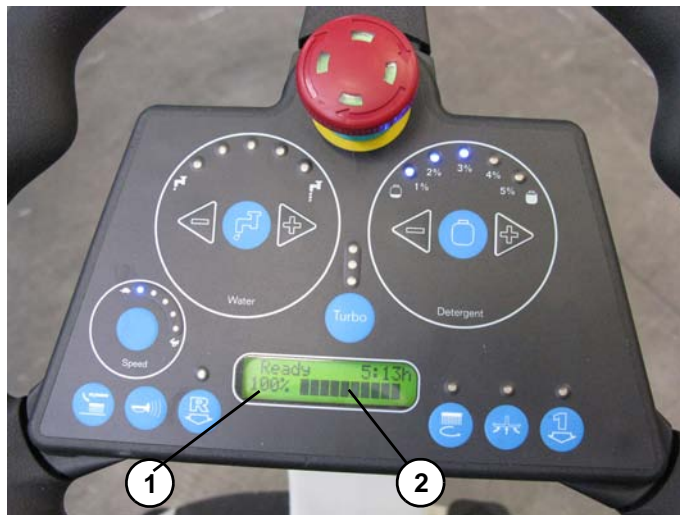

Figure 5-11
7. The charge has ended when on the display (1, **Figure 5-11**) appears “100 %” and all the bars are full (2).